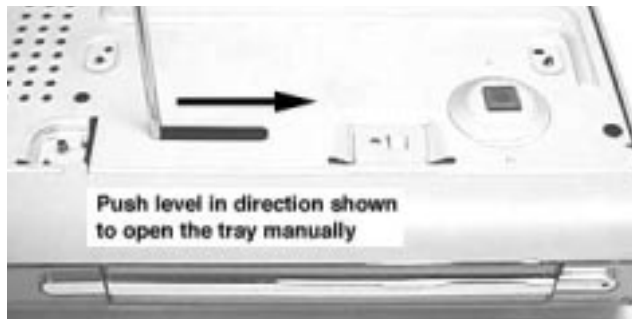

Figure 1
- 1) The tray can be manually open by inserting a minus screw driver and push the lever in the direction as shown in Figure 1 to unlock the tray before sliding it out.